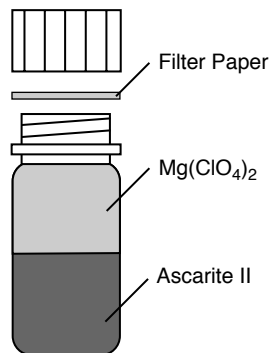

Figure 5-4. Fill the bottles with Ascarite II, followed by magnesium perchlorate.
2. Before removing the bottles, prepare the new bottles (in spares kit) by filling them with equal parts Ascarite II and magnesium perchlorate (Figure 5-4). Fill the bottles half full with Ascarite II first, followed by the magnesium perchlorate. Place a filter paper disk in the lid to keep the chemicals from spilling into the detector housing. NOTE: If Ascarite II is unavailable, **dry** soda lime (**not wet**) can be substituted.